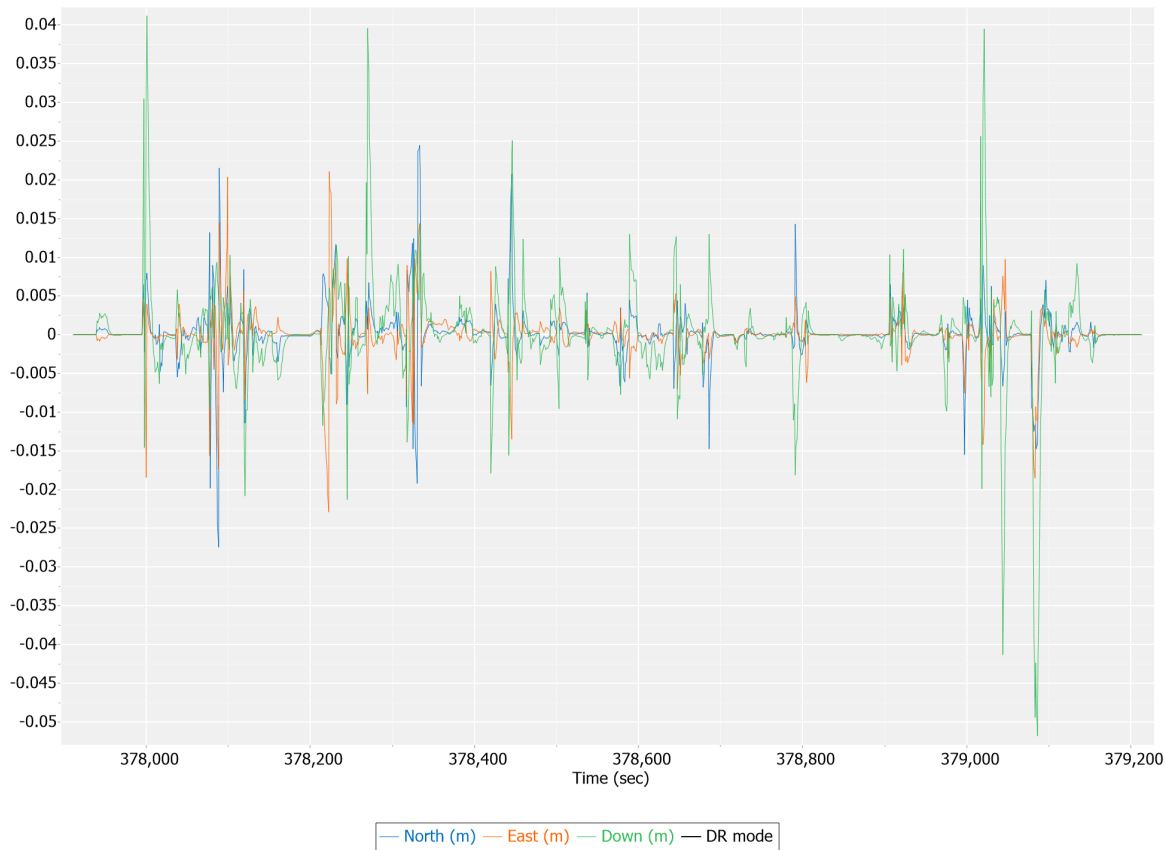

Fig 10: SBET IAKAR Separation
- *Provides the difference between forward and reverse processing in time (Fig 10)*